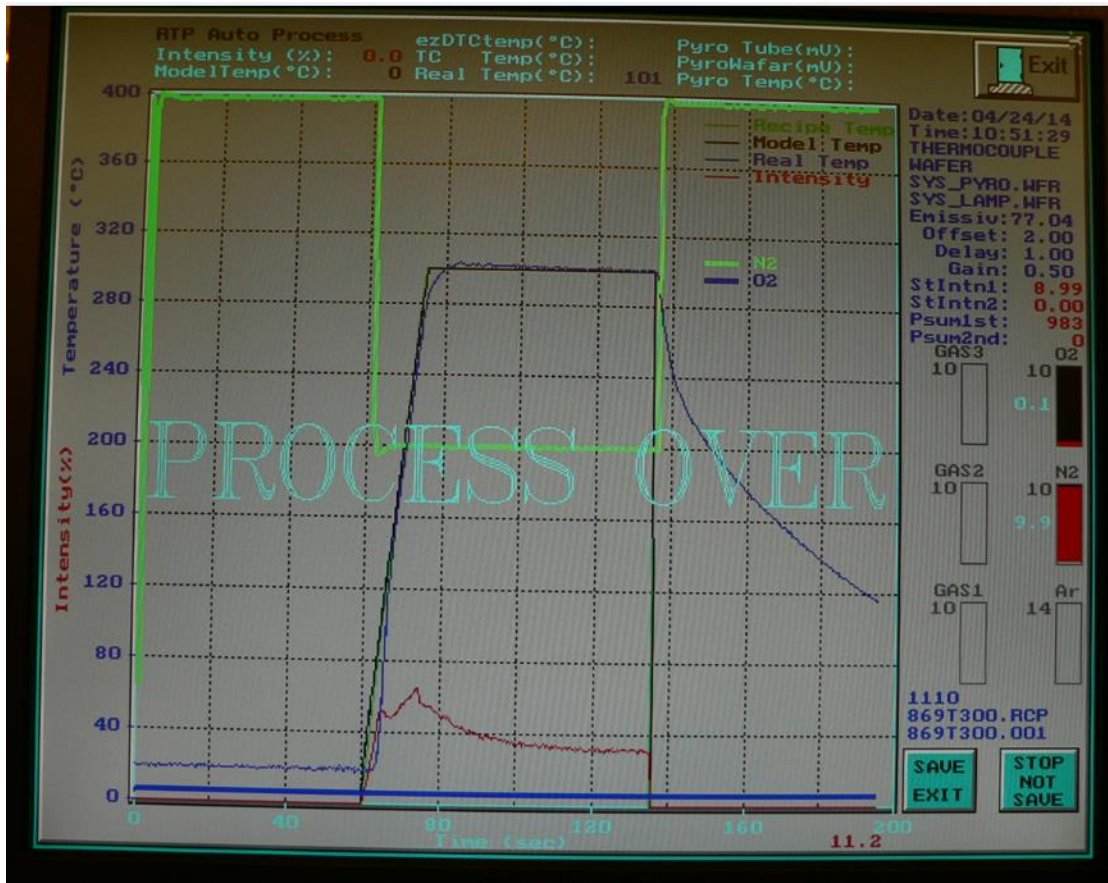

Fig14. Process over on the process monitor screen
4. At the end of the process, “PROCESS OVER” will be printed over the process monitor screen and be blinking in different color. (Fig.14) Click “STOP NOT SAVE” button to exit the process monitor screen.